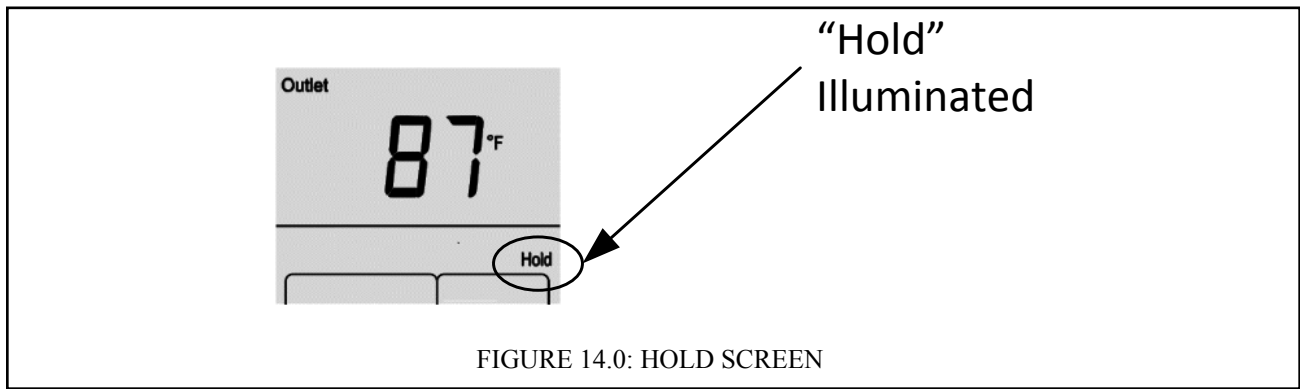
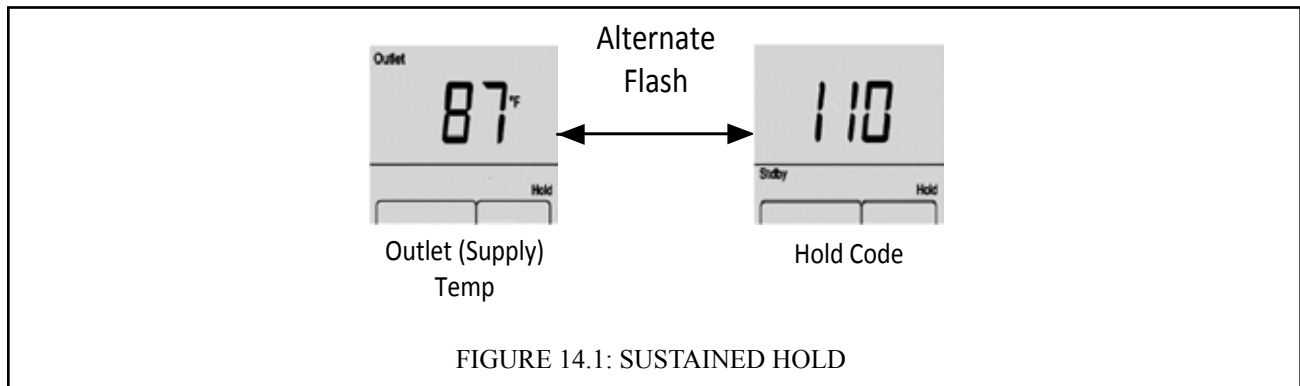

FIGURE 14.0: HOLD SCREEN
FIGURE 14.1: SUSTAINED HOLD
**Hold** – A condition exists that, when cleared, will allow burner to automatically fire. This is similar to what is sometimes called a “soft lockout”, except that Holds also occur during normal operation (for example while the control is waiting for the fan to come up to the pre-purge speed). When a Hold is present, “Hold” is shown on the home screen as shown in Figure 14.0. If the Hold persists, the home screen will alternately flash the outlet temperature and the Hold Code as shown in Figure 14.1. A list of these codes, and their meanings, are shown in Table 14.4.